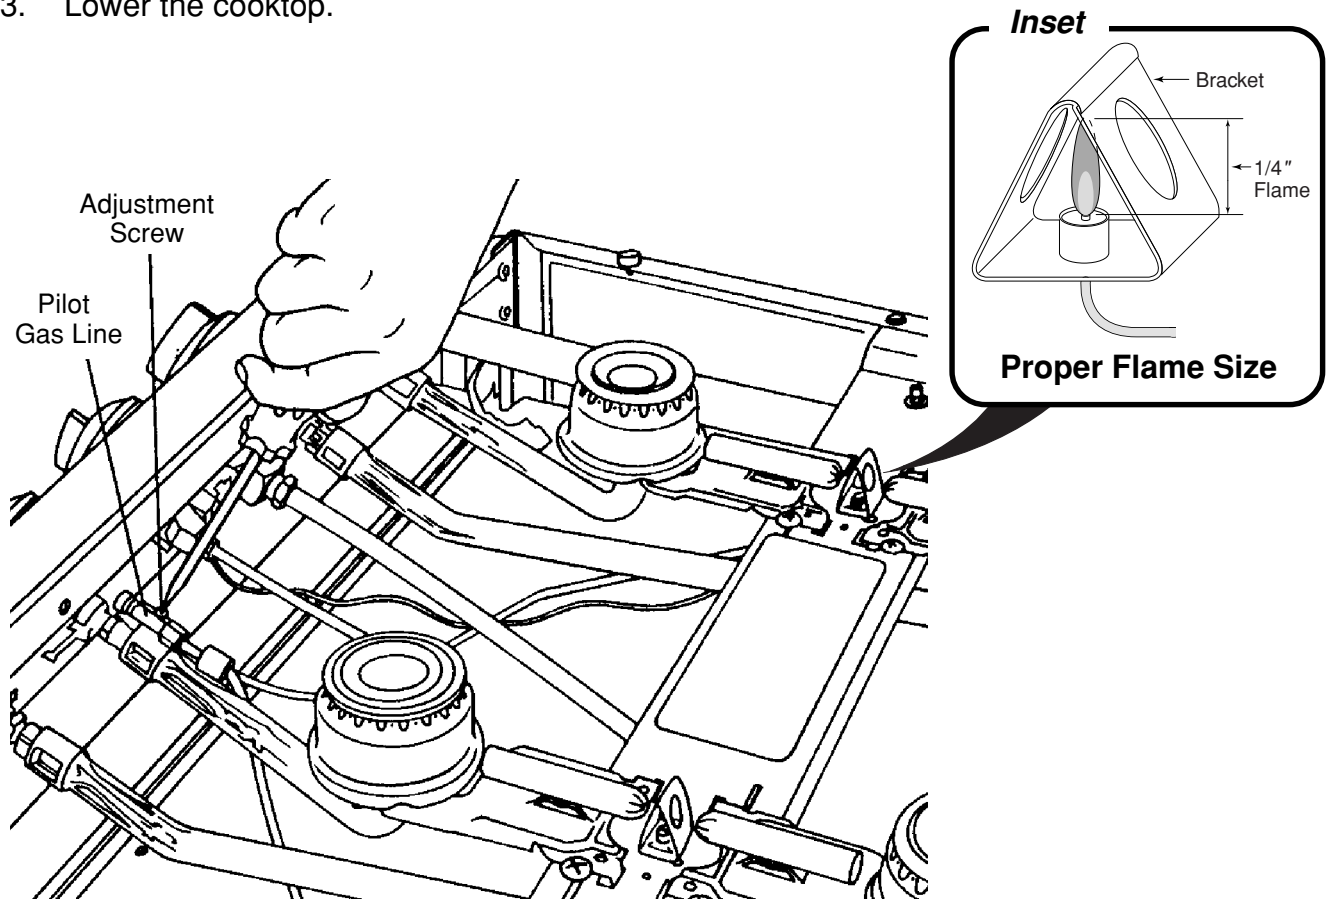

Figure 3-27
2. Using a screwdriver, turn the needle valve screw slowly in the direction necessary to set the size of the pilot flame, as shown in Figure 3-27. The flame should have a sharp, blue cone that is approximately 1/4" high, as shown in the inset.